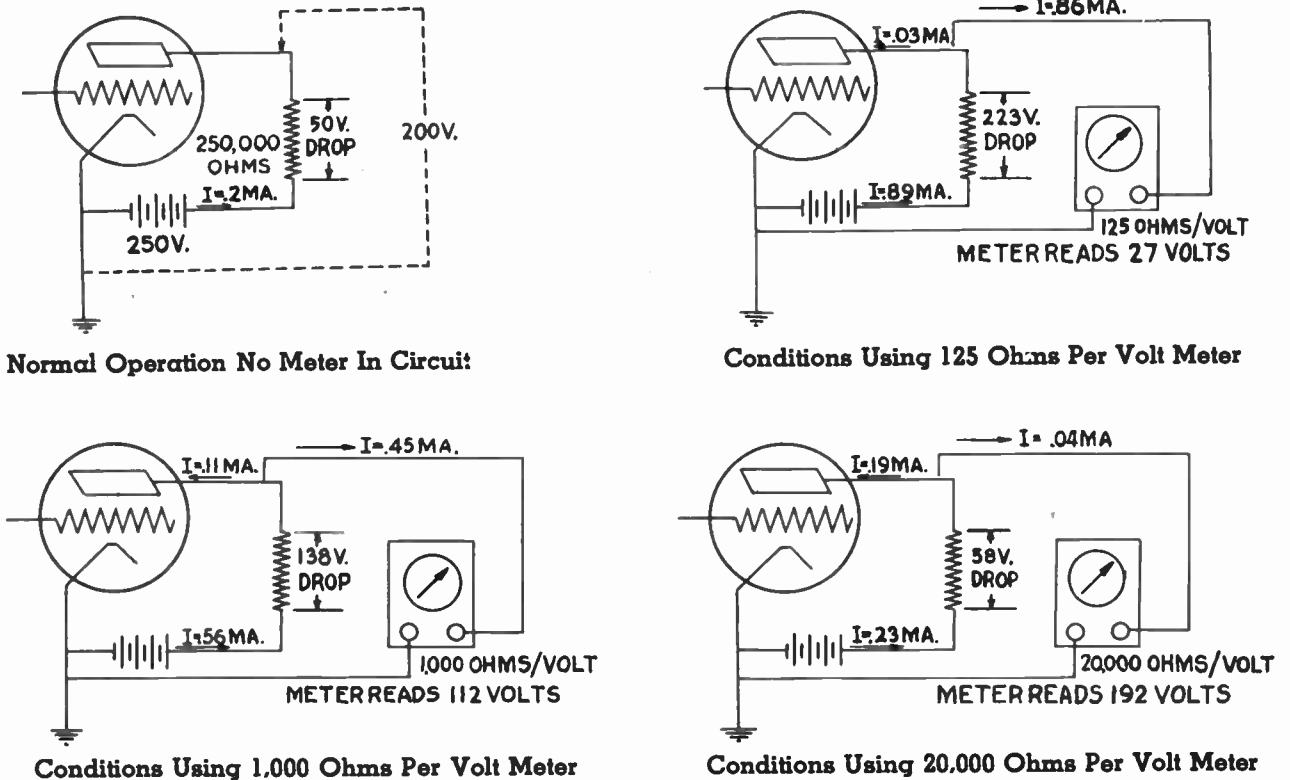

Figure 11
3.11—To measure the plate voltage for instance, in a circuit of this type best accuracy would be obtained with the most sensitive instrument. Any current drawn by the voltmeter will pull the voltage down considerably and will, therefore, cause an appreciable error in the reading of plate potential. Figure 11 shows four diagrams giving a comparison in readings between voltmeters of 125 ohms per volt, 1,000 ohms per volt, and 20,000 ohms per volt.